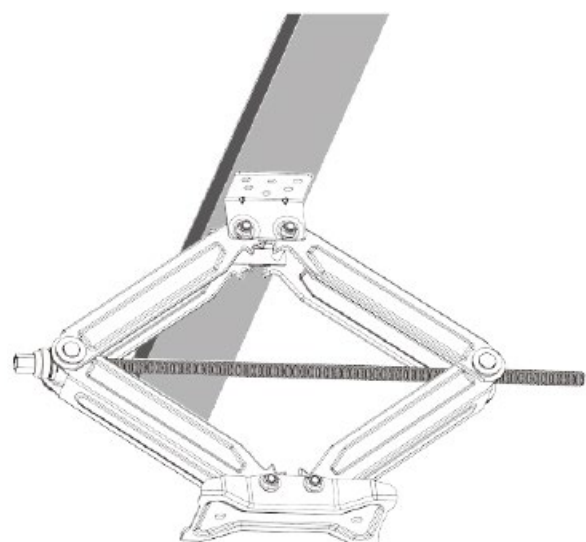

Figure 2
- Once jack placement is determined, weld the mounting plates to the vehicle's frame. Use four 1" welds for this step (Figure 2).